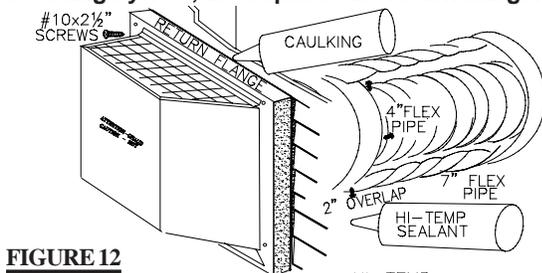
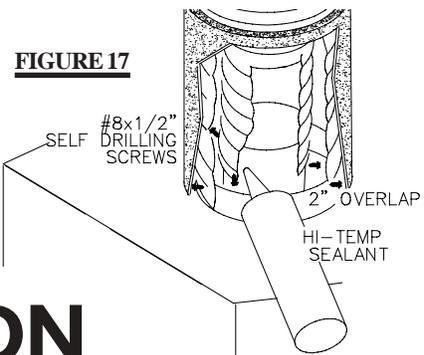

FIGURE 12
FIGURE 17
5. Thread the air terminal pipe assembly down through the roof support and attach, ensuring that a minimum 16" of air terminal will penetrate the roof when fastened. **FIGURE 17.** If the attic space is tight, we recommend **threading the Wolf Steel vent pipe collar or equivalent loosely onto the air terminal assembly as it is passed through the attic.** **FIGURE 12.** The air terminal must be located vertically and plumb.